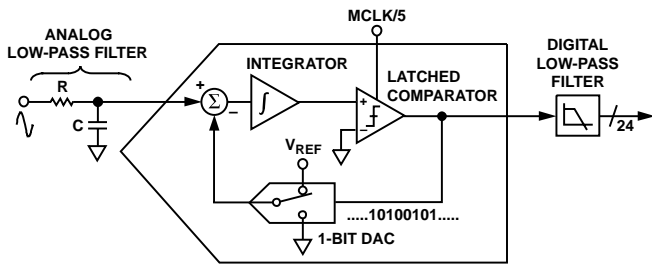

Figure 18. First-Order Σ - Δ ADC
For simplicity, the block diagram in Figure 18 shows a first-order Σ - Δ ADC. The converter is made up of the Σ - Δ modulator and the digital low-pass filter.
Figure 18 also shows an analog low-pass filter (RC) on the input to the modulator. This filter is present to prevent aliasing. Aliasing is an artifact of all sampled systems. Aliasing means that frequency components in the input signal to the ADC, which are higher than half the sampling rate of the ADC, appear in the sampled signal at a frequency below half the sampling rate. Figure 20 illustrates the effect. Frequency components (arrows shown in black) above half the sampling frequency (also known as the Nyquist frequency, i.e., 409.6 kHz) are imaged or folded back down below 409.6 kHz. This happens with all ADCs regardless of the architecture. In the example shown, only frequencies near the sampling frequency, i.e., 819.2 kHz, move into the band of interest for metering, i.e., 40 Hz to 2 kHz. This allows the use of a very simple LPF (low-pass filter) to attenuate high frequency (near 819.2 kHz) noise, and prevents distortion in the band of interest. For conventional current sensors, a simple RC filter (single-pole LPF) with a